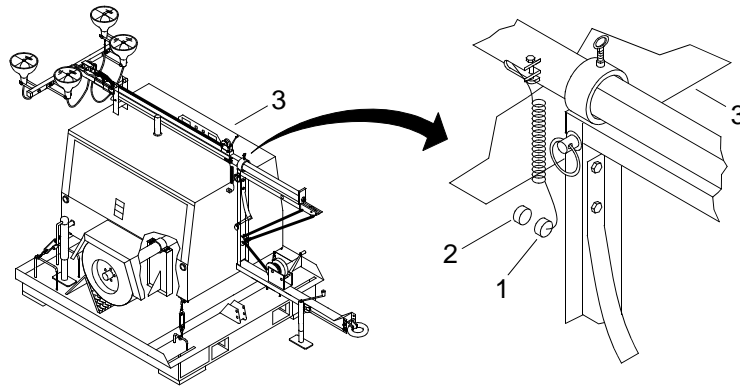

Figure 4. Tower Electrical Cable
5. Disconnect tower junction box electrical cable plug (figure 4, item 1) from 125V receptacle (figure 4, item 2) on front of light tower (figure 4, item 3).